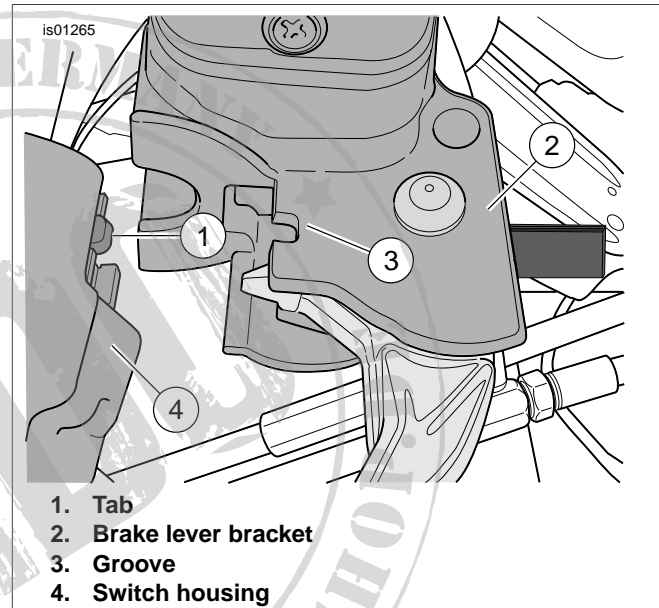

Figure 3. Brake Lever Bracket to Switch Housing
- See Figure 3. Position the brake lever/master cylinder assembly inboard of the switch housing (4) assembly engaging the tab (1) on the lower switch housing in the groove (3) at the top of the brake lever bracket (2).